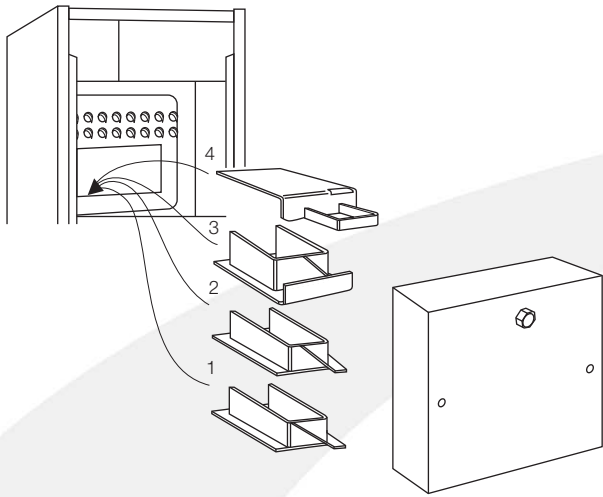
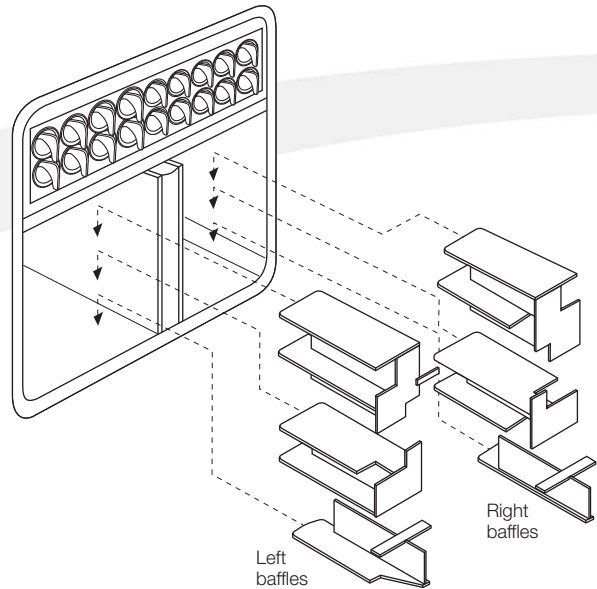
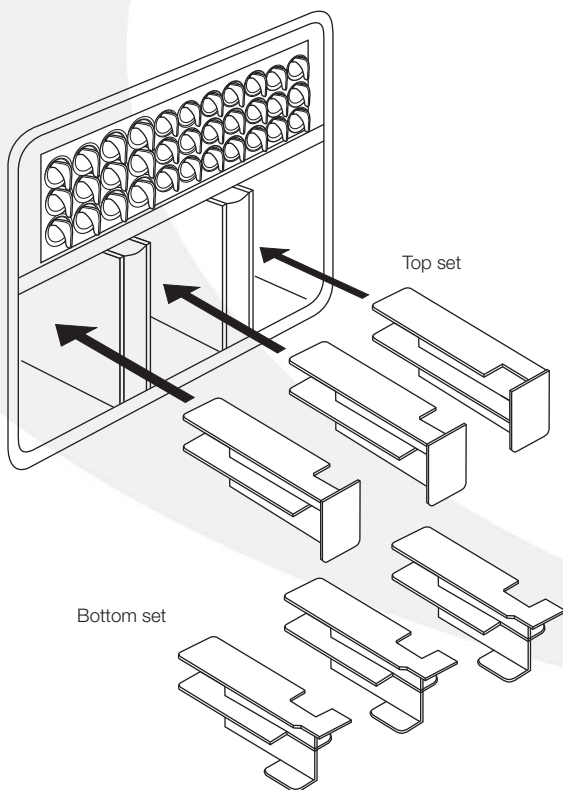
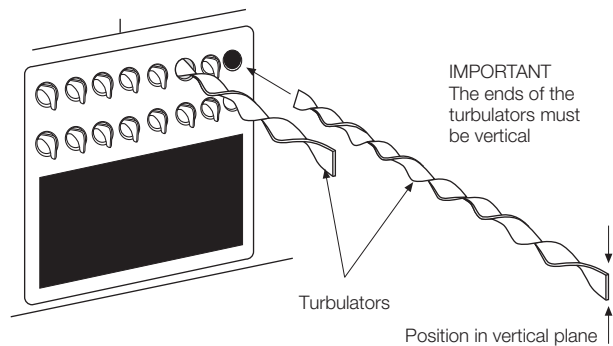

Figure 11-1: Baffles in Vortex Pro Combi 21e
Figure 11-2: Baffles in Vortex Pro Combi 26e
Figure 11-3: Baffles in Vortex Pro Combi 36e
Figure 11-4: Turbulators in Vortex Pro Combi e boilers
2. Remove the baffles as shown in Figure 11-1, Figure 11-2 or Figure 11-3, as appropriate.
6. Replace the baffles, ensuring they are correctly fitted. See Figure 11-1, Figure 11-2 or Figure 11-3, as appropriate. Pull out the spiral turbulators from the heat exchanger tubes. See Figure 11-4.